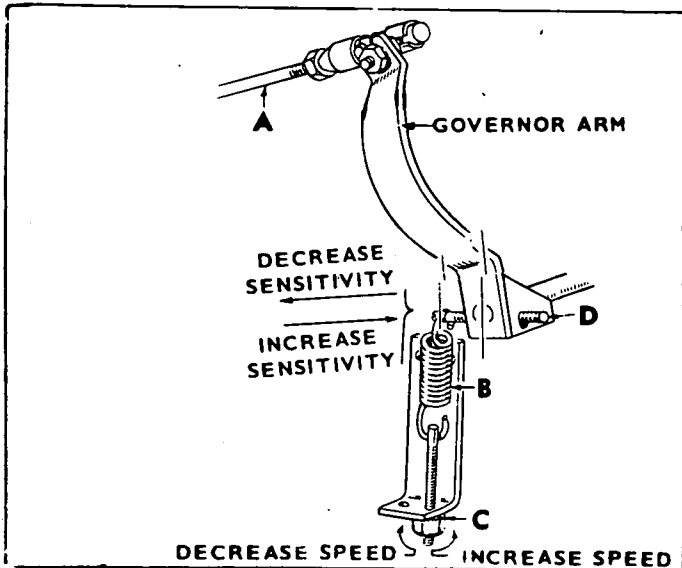

FIGURE 19. GOVERNOR DETAILS
With the plant stopped, the length of linkage A must (with tension on spring B) allow the carburetor throttle stop lever to just clear (maximum 1/32") the carburetor body (Fig. 19). Alter linkage length by turning the ball joint on the threaded rod. Run the plant (under load) to thoroughly warm it up.
1. **Alternating Current Plant:** Connect a voltmeter across the generator output. With the plant operating at no-load, adjust the speed nut C (Fig. 19) for a voltmeter reading of 126 volts for 120 volt plants (252 volts for 240 volt plants). Voltage should not fall below 108 volts for a 120 volt plant (216 volts for a 240 volt plant) under full rated load.
If voltage drop from load to no-load is too great, turn sensitivity screw D clockwise (Fig. 19). If voltage drop is within the above limits, but is unsteady with a tendency to alternately increase and decrease, turn the sensitivity screw counterclockwise. Any change in the sensitivity screw D setting requires a compensating change in the speed adjustment nut C.
3. **Battery Charging Plant:** Turn speed nut C (Fig. 19) to give the desired charge rate. Normal speed, as specified on the nameplate, is approximately 2400 rpm. If the charge rate tends to "taper off" too soon, turn the sen-